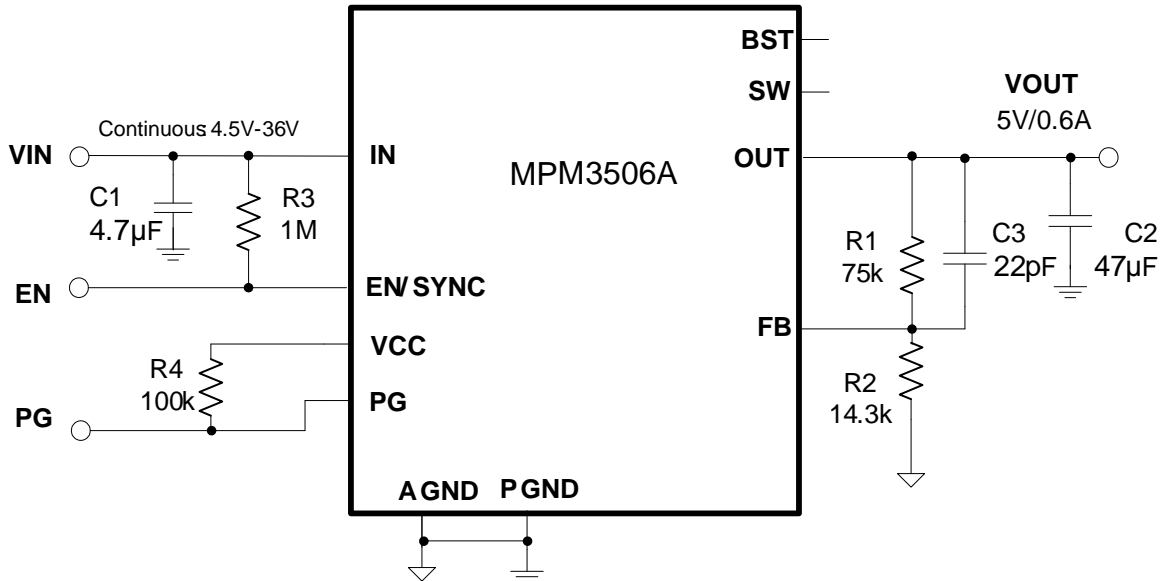

Figure 8:  $V_{OUT} = 5V$ ,  $I_{OUT} = 0.6A$
- 8) The recommended layout is based on Figure 8 and the "Typical Application Circuits" on page 18.
The detailed application schematic is shown in Figure 8. The typical performance and circuit waveforms have been shown in the “Typical Performance Characteristics” section. For more device applications, please refer to the related evaluation board datasheets.